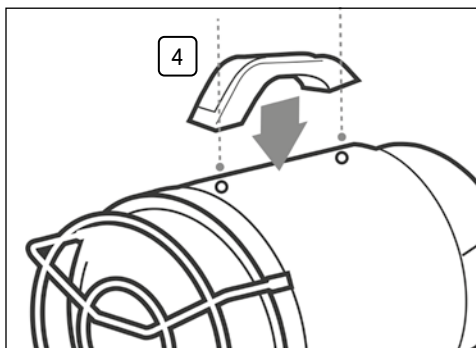

Fig. 3
6.2 Fitting Transport Handle (Fig.3)